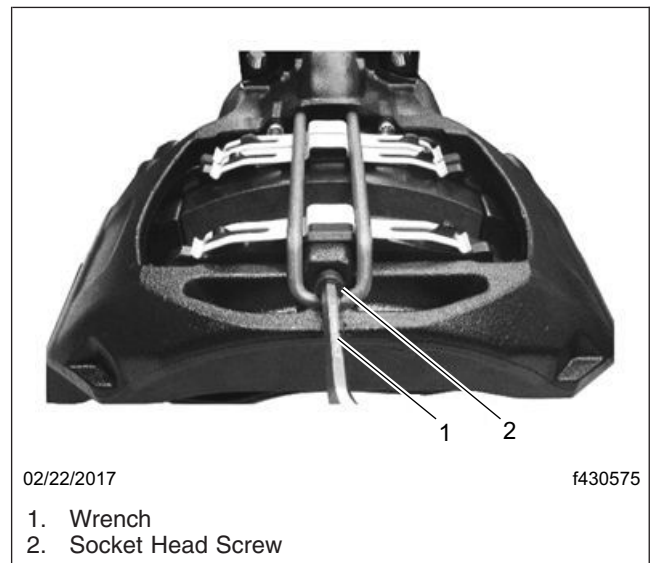

Fig. 7, Tightening the Hold-Down Bracket
17. Press the brake pad hold-down bracket against the brake caliper and fasten the socket head screw on the brake caliper. See **Fig. 7**. Tighten 22 ± 12 lbf·ft (30 ± 16 N·m).